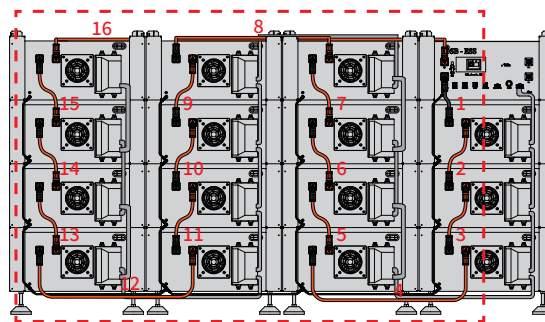

Figure 11
Step 3: Connect the power cables, connecting the high-voltage box B- to the negative terminal of the first battery pack in numerical order. Then, connect the positive terminal of the first battery pack to the negative terminal of the second battery pack, continuing sequentially. Finally, connect the positive terminal of the last battery pack to the high-voltage box B+, as shown in Figure 11.